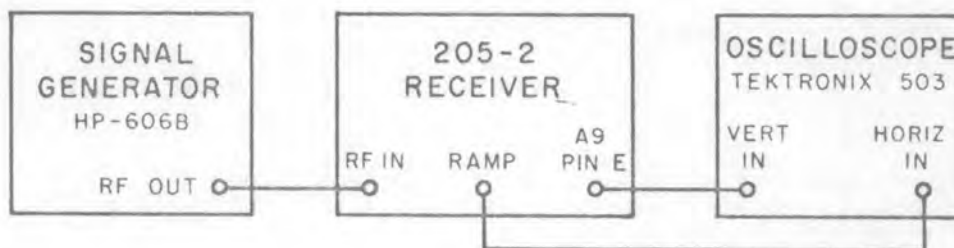

Figure 4-3. Test Setup, Sweep Mode AGC Check
- (1) Connect the equipment as shown in Figure 4-3.